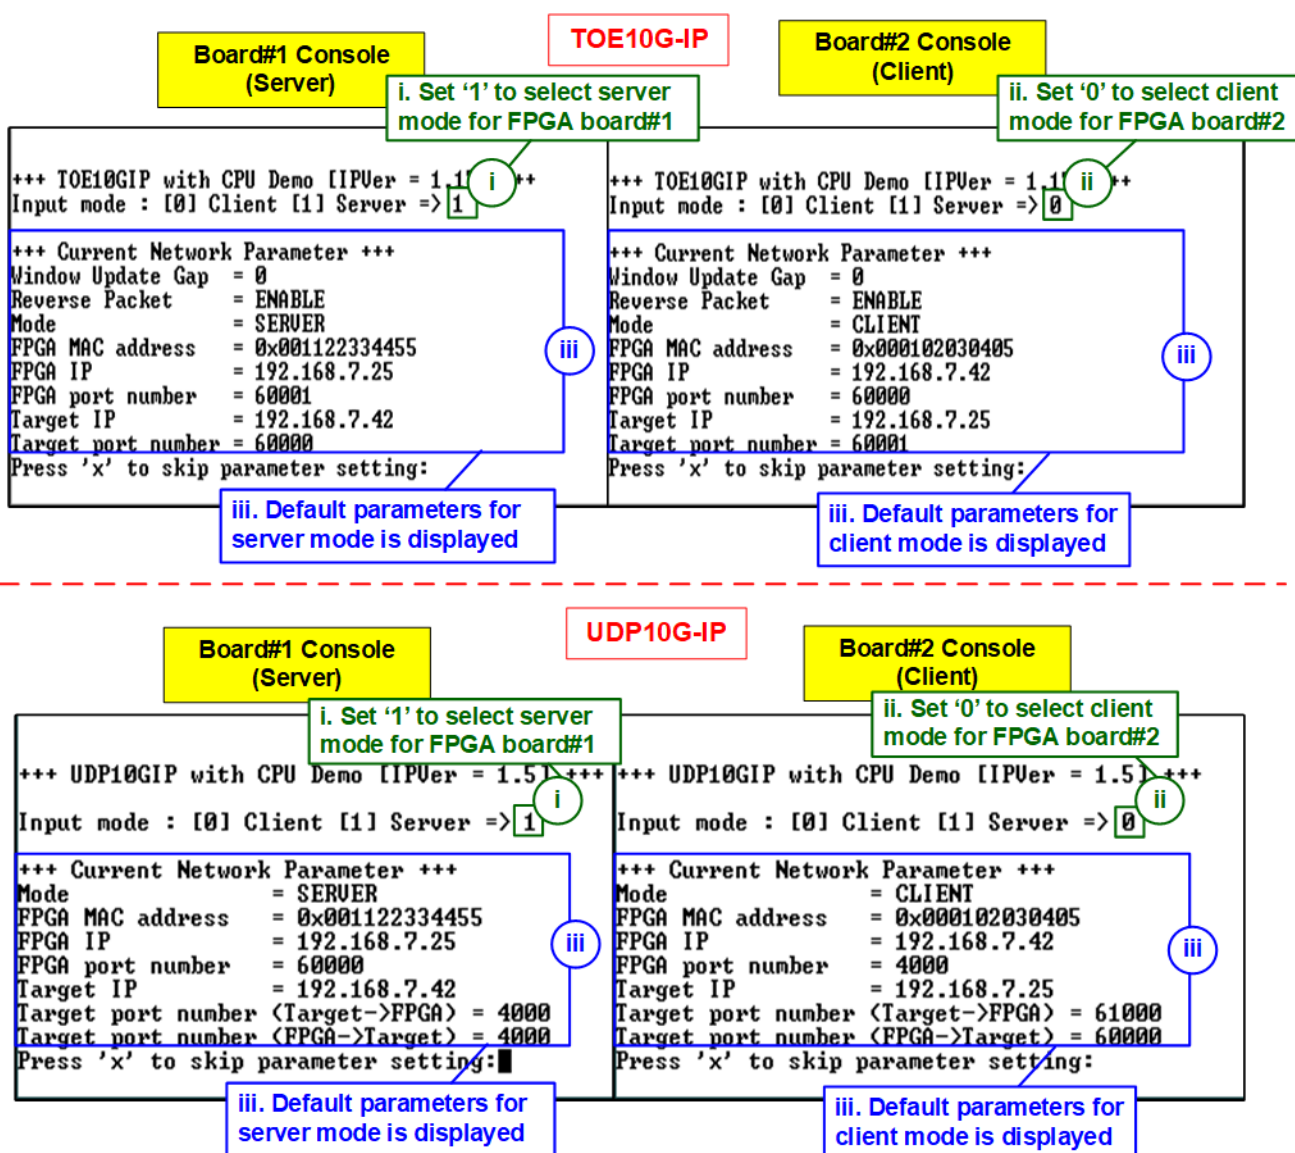

Figure 3-2 Input mode
- iii) The default parameters for the selected mode will be displayed on the console, as shown in Figure 3-2.